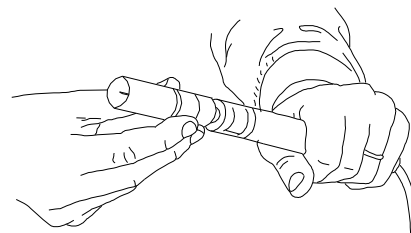

Figure 1c. Bleed the transfer fluid by gently tightening the transfer nipple. Make sure that the O-ring seals inside the plexiglass adapter.
- Screw the transfer nipple into the plexiglass adapter only until the O-ring seals inside the adapter (figure 1c). Make sure that a few drops of water bleed through the needle. Between individual measurements, the bleeding through the needle shall be repeated by gradually screwing the transfer nipple into the plexiglass adapter. The transfer nipple can be screwed five full turns until it seats onto the plexiglass adapter. Unscrew the transfer nipple and repeat the procedure described above.